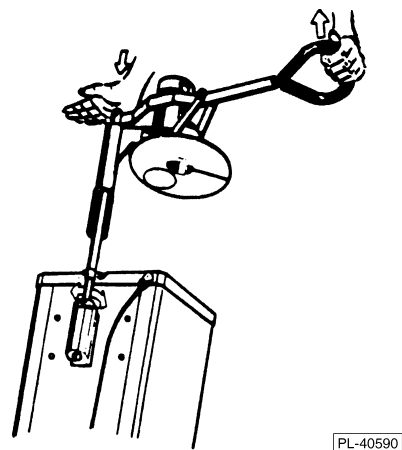

Fig. 3
2. Push the pusher plate down on the shaft with your right hand as far as it will go (Fig. 3). The pin on the shaft of the pusher plate must slide into the slot in the bracket.